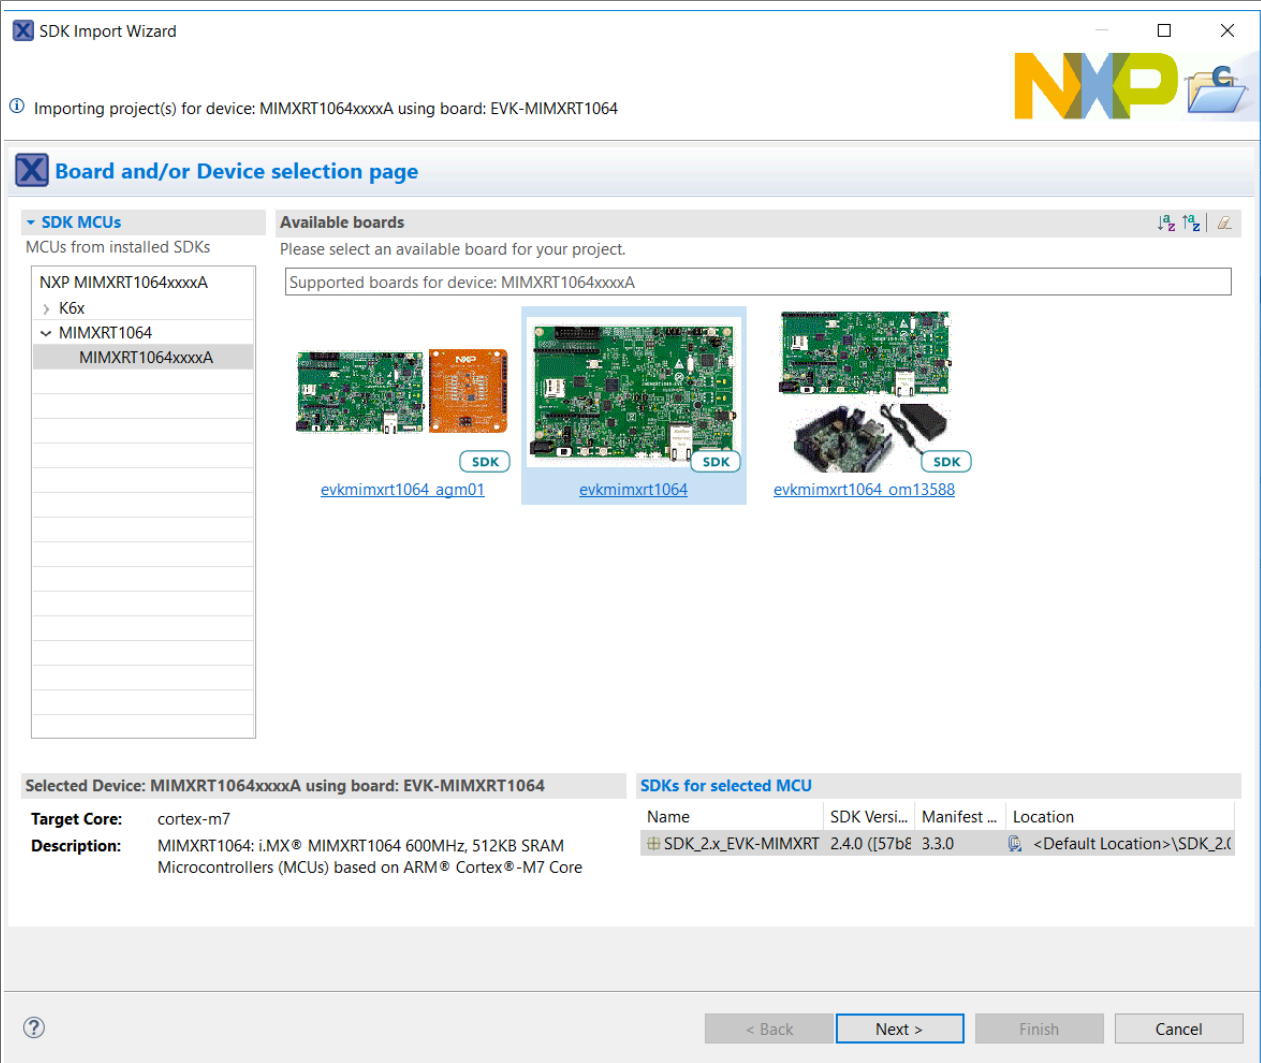

Figure 30. Selecting MIMXRT1064-EVK board
3. In the window that appears, expand the **MIMXRT1064** folder and select **MIMXRT1064xxxxx**. Then, select **evkmimxrt1064** and click **Next**, as shown in Figure 30.